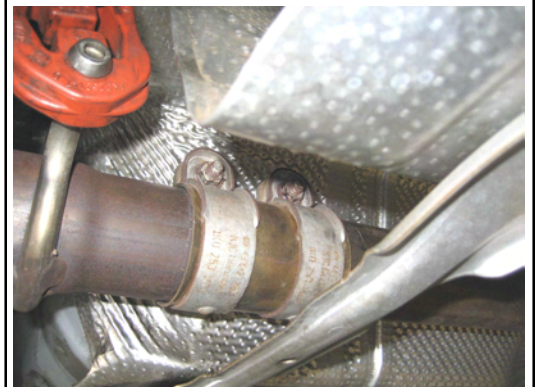

Figure 3
4. Loosen the clamp shown in figure 3 located at the rear of your original down pipe. Place the clamp to the side for use during the installation of your new Off Road Down Pipe.